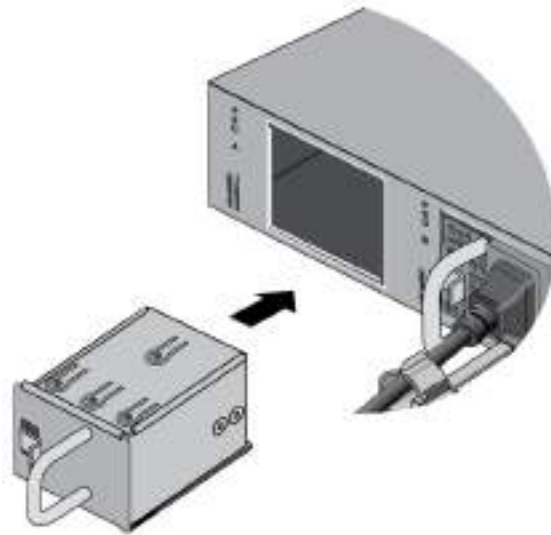

Figure 133. Installing the Blank Power Supply Cover
7. Orient the blank power supply cover as shown in Figure 133 on page 191 and slide it into the slot until it clicks into place.
10. Orient the blank power supply cover as shown in Figure 133 on page 191 and slide it into the slot until it clicks into place.